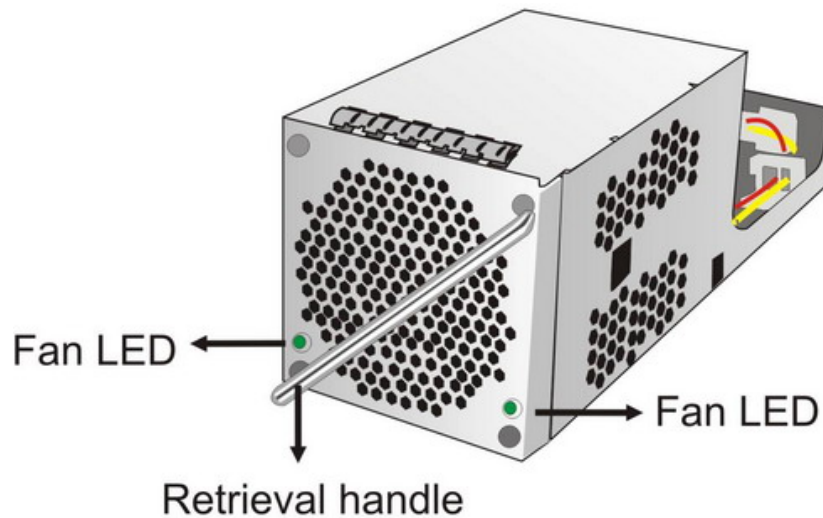

Figure 1-12: Cooling Module
Two cooling modules at the rear center ventilate the system. (see **Figure 1-12**.) The cooling fans operate at two (2) fan speeds. When the system operates normally, the cooling fans operate at the lower speed. If a system module fails or when one of the temperature